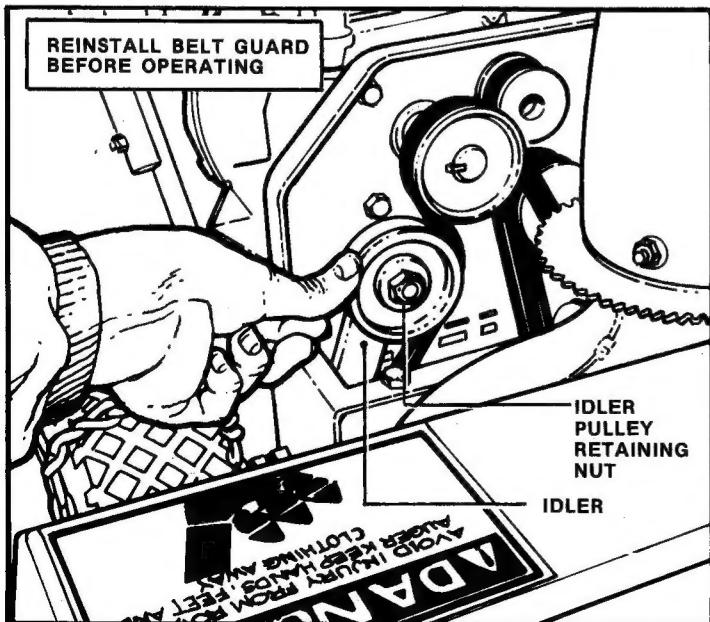

FIGURE 3.4
3.8 BELT TENSION: Tension on the traction drive belt is automatically maintained by an individual idler spring. After removing the belt guard and bottom cover, check to make sure this spring is intact and properly installed. If the spring is properly connected, check for excessively worn belts. Notice the return spring on the idler for the blower drive - this spring activates the brake. The idler should always return to braking position! Tension of the blower drive belt, which is on the $\frac{3}{4}$ dia. engine drive pulley, is adjusted by loosening and repositioning the idler pulley. To increase tension, loosen the idler pulley retaining nut, hold the idler arm and push the pulley tighter against the belt. See Figure 3.4. Retighten nut after repositioning and check for proper clutching action with blower clutch handle released. Tension of the traction belt on the inside groove is non-adjustable. Before reinstalling belt guard, check to make sure the belt guide on the right side is about $1/16$ " away from the outside surface of the blower belt with clutch engaged. Adjust the guide by loosening bolts and moving guide.